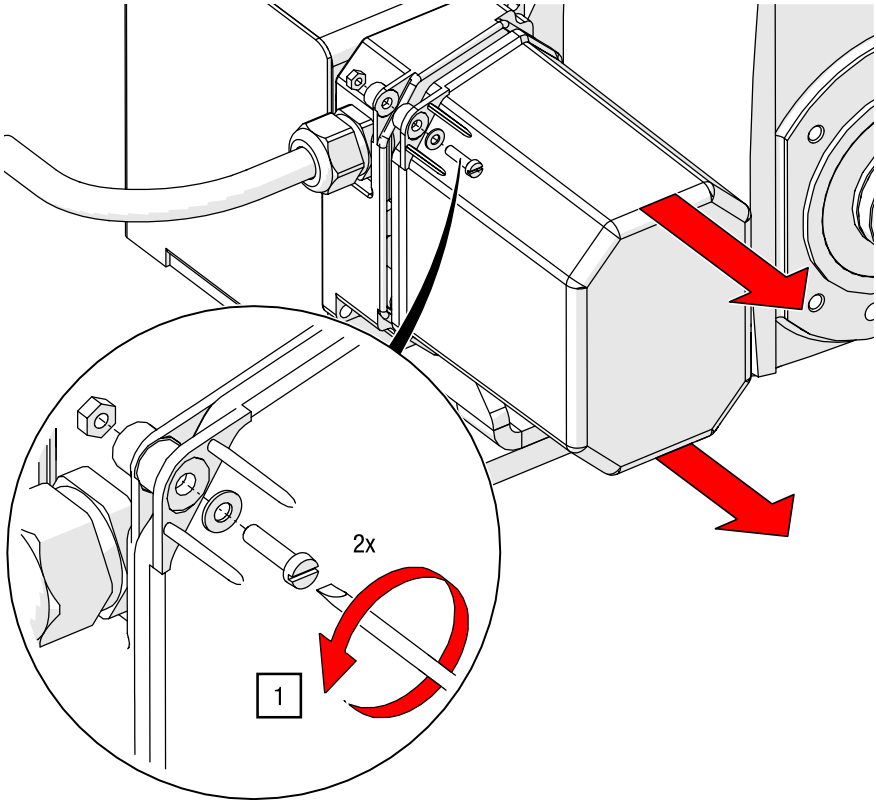

Fig. 44: Setting the emergency limit switches – opening the limit switch enclosure
1. Loosen the enclosure screws using a flat-head screwdriver or hex key and remove the limit switch enclosure (see Fig. 44).